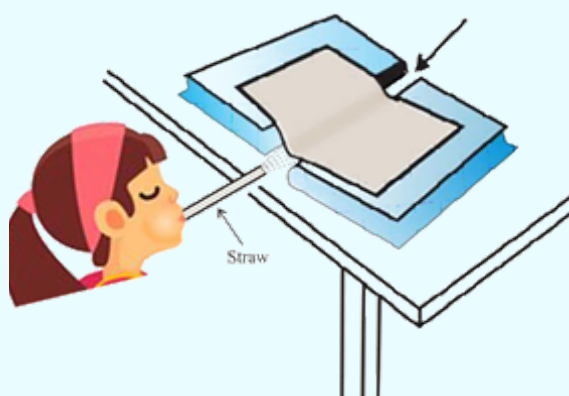

Fig. 10.2.3: *The paper bends downwards on blowing under the paper bridge*
- Place a sheet of paper, supported by two books, in the form of a bridge. Let the books be slightly converging (Fig.10.2.3), that is, their separation is larger on the side facing you.